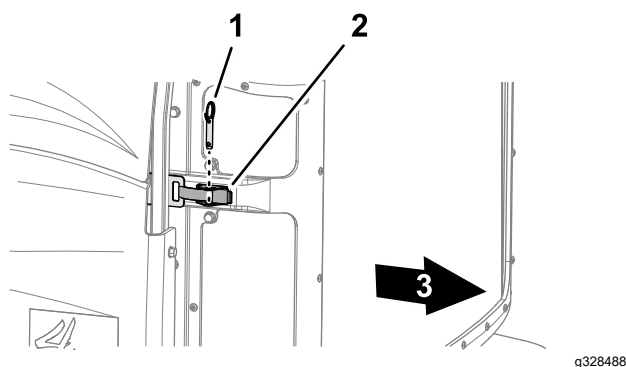

Figure 62
- Remove the ball pin from the screen latch (Figure 62)